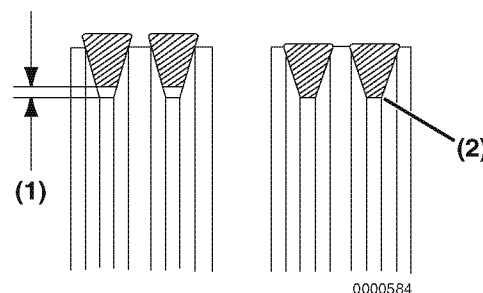

Figure 5-6
- Tighten the V-belt to the proper tension. There must be clearance (Figure 5-6, (1)) between the V-belt and the bottom of the pulley groove. If there is no clearance (Figure 5-6, (2)) between the V-belt and the bottom of the pulley groove, replace the V-belt.